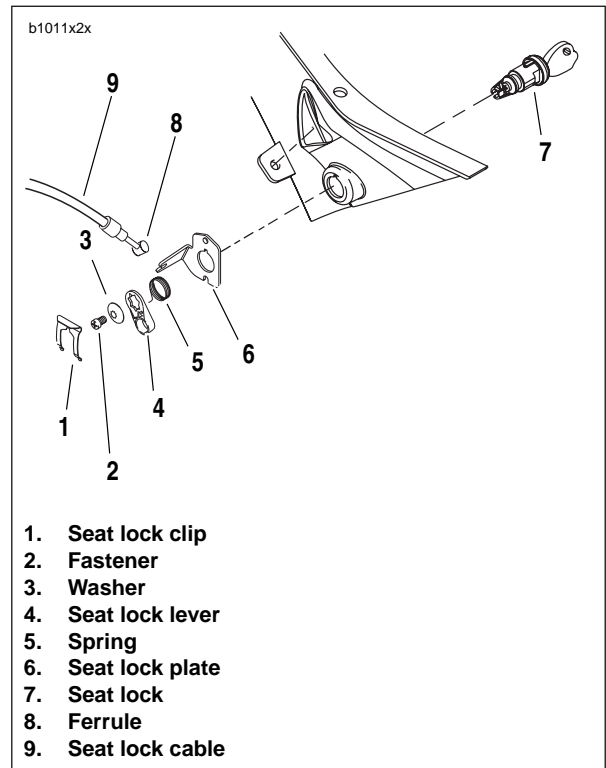

Figure 2-127. Seat Lock and Cable Assembly
3. See Figure 2-127. Disconnect passenger lock cable (9) by removing cable from seat lock plate (6) and ferrule from seat lock lever (4).
4. Remove seat lock lever (4) by removing fastener (2) and washer (3) from seat lock (7).
5. Remove spring (5).
6. Remove seat lock clip (1) by sliding from seat lock plate (6).
7. Remove seat lock plate (6) and seat lock (7).
1. See Figure 2-127. Install the seat lock (7) on to upper tail body work.
2. Install seat lock plate (6) by aligning plate tab onto seat lock (7).
3. Install seat lock clip (1) by sliding clip aligning clip groove onto seat lock plate (6) tab.
4. Position short tab of spring (5) into seat lock notch.
5. Position long end of spring into the seat lock lever (4).
6. Load the spring (5) by turning the seat lock lever (4) counterclockwise 1/4 turn.
7. Once the spring is loaded, install the seat lock lever (4) onto the lock aligning the lever to the square groove that is cast into the seat lock (7).
8. Fasten the lock lever (4) to the seat lock (7) with the washer (3) and fastener (2).
9. Install the ferrule (8) of the seat lock cable (9) into the seat lock lever (4).
11. Install the seat lock cable (9) into the seat lock plate (6).